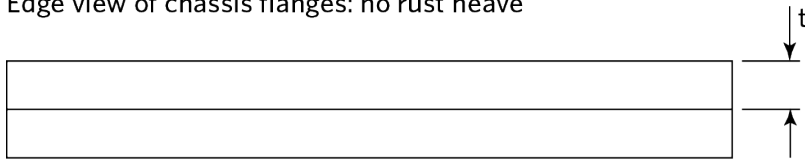

**Figure 4-1-2. Structural corrosion damage limits**
- any structural area, as indicated in the shaded areas of Figure 4-1-2
If there is perforated corrosion in any area (see Figure 4-1-2), the vehicle must be referred to a specialist repair certifier.